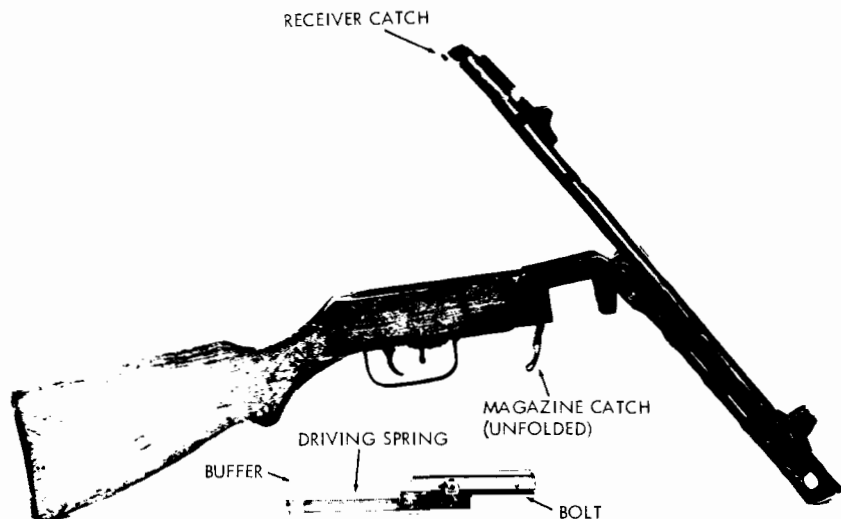

Figure 14. PPSH-41, field stripped.
d. Remove the magazine by unfolding the magazine catch (fig. 14) and pressing it forward, toward the magazine; simultaneously pull the magazine straight down, out of the magazine opening.
- b. Press in on the receiver catch at the rear of the receiver, and swing the barrel down (fig. 14).